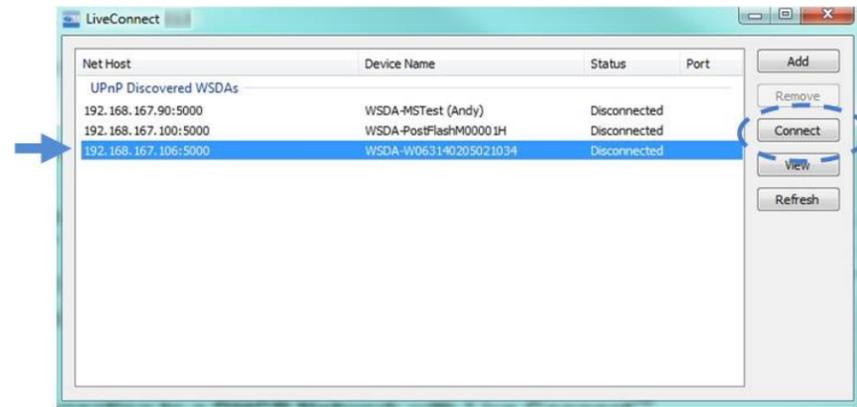

Figure 7 - Connecting the Gateway to Node Commander®
1. To enable access to Node Commander® highlight the device in Live Connect™, and select the Connect button (*Figure 7 - Connecting the Gateway to Node Commander®*).